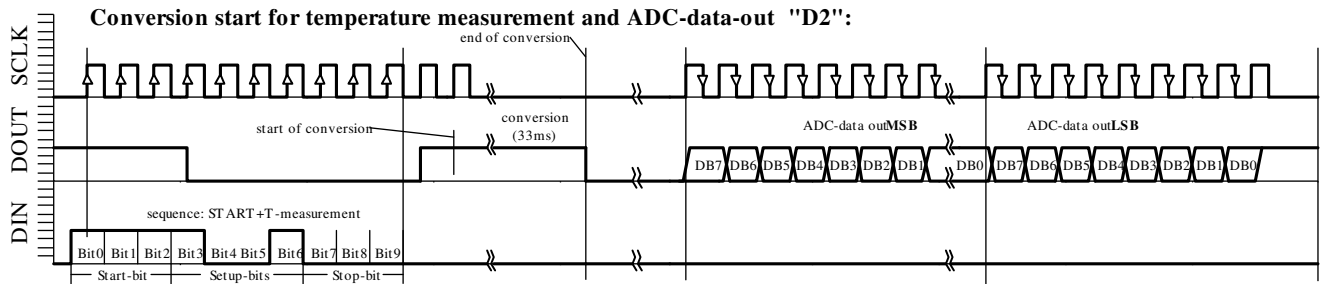

Fig. 6b: D2 ACQUISITION sequence.
- Conversion START for temperature measurement and ADC-data-out "D2" (Figure 6b)